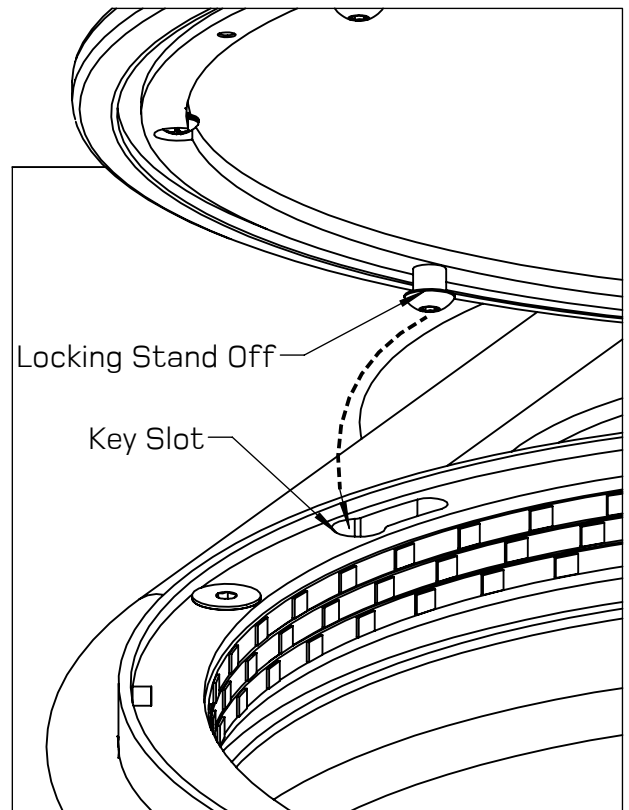

FIGURE A-2
5. Install glass/stone to sconce by aligning and inserting locking stand-offs with with key slots in fixture body. Turn glass/stone clockwise until fully seated. See Figure A-2 & A-3.